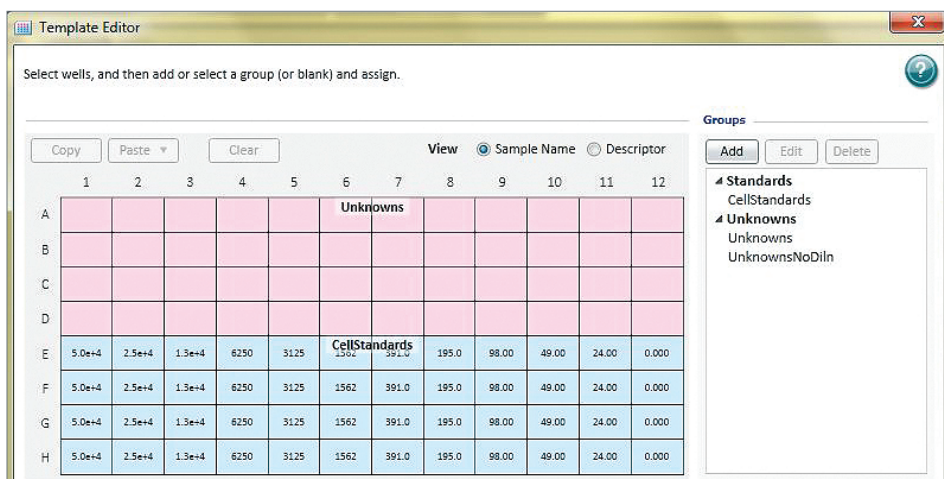

Figure 1. Sample template setup. Wells are assigned as cell standards or unknowns.
Step 3: Use the Template Editor in the cell standards section of the protocol to create a template of the assay indicating the location of standards (cell numbers for each dilution), blanks (no cell lysate) and unknowns in the microplate. An example of a template with standards and unknowns is shown in Figure 1. Please note that this is the view of the template setup window that appears when the Ctrl and Shift keys are held down simultaneously to display the values assigned to each well. The assigned names of unknowns (Un01-Un12) do not appear in this view.